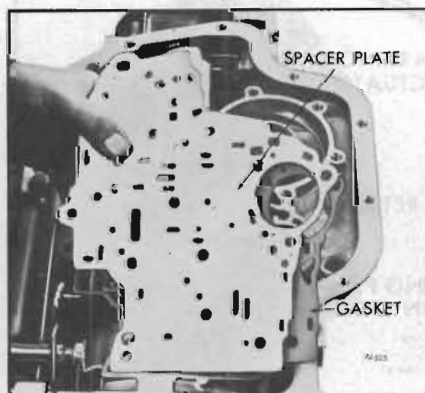

Figure 74-525
7. Remove valve body assembly spacer plate and gasket. See Figure 74-525.